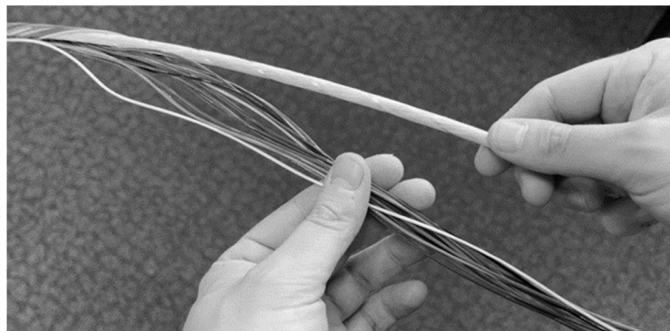

Figure 27 - Unwrap the Outer buffer tubes from Reversal Point
5.14 Repeat steps 4.10 & 4.11 on the outer core of the cable i.e. where the 15 outer buffer tubes are present (Figure 27).